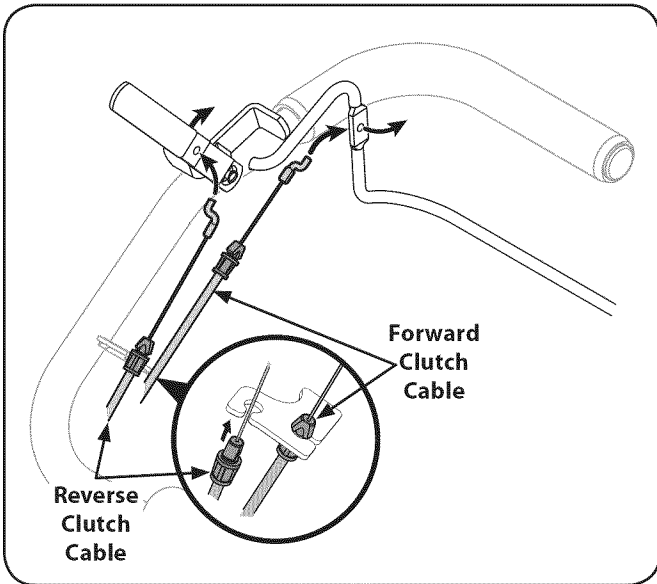

Figure 3-3
- Carefully unwrap the forward clutch cable (Black end fitting) from its shipping position. Pull the cable up through the bottom hole of the cable bracket and push the cable connector up through the hole until the groove in the connector snaps into place. See Fig. 3-3.
- Place the Z-connector into the hole in the forward clutch bail from the outside of the bail in. See Fig. 3-3.
- Carefully unwrap the reverse clutch cable (Red end fitting) from its shipping position. Pull the cable up through the top hole of the cable bracket and push the cable connector up through the hole until the groove in the connector snaps into place. See Fig. 3-3.
- Place the Z-connector into the hole in the reverse clutch handle assembly from the inside of the handle to the inside. See Fig. 3-3.